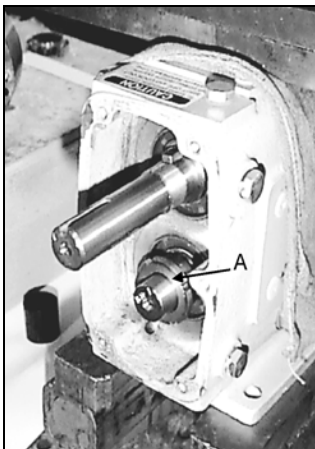

Figure 59 - Install locknut sleeve
6. Turn the gear case around. Apply anti-seize to the locknut sleeve (Figure 59, item A) and install it on the short shaft.